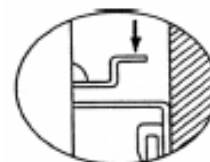

Fig.1
- Remove wall mounting bracket from back of heater by de pressing the two spring latches at the top of the heater (see Fig.1)